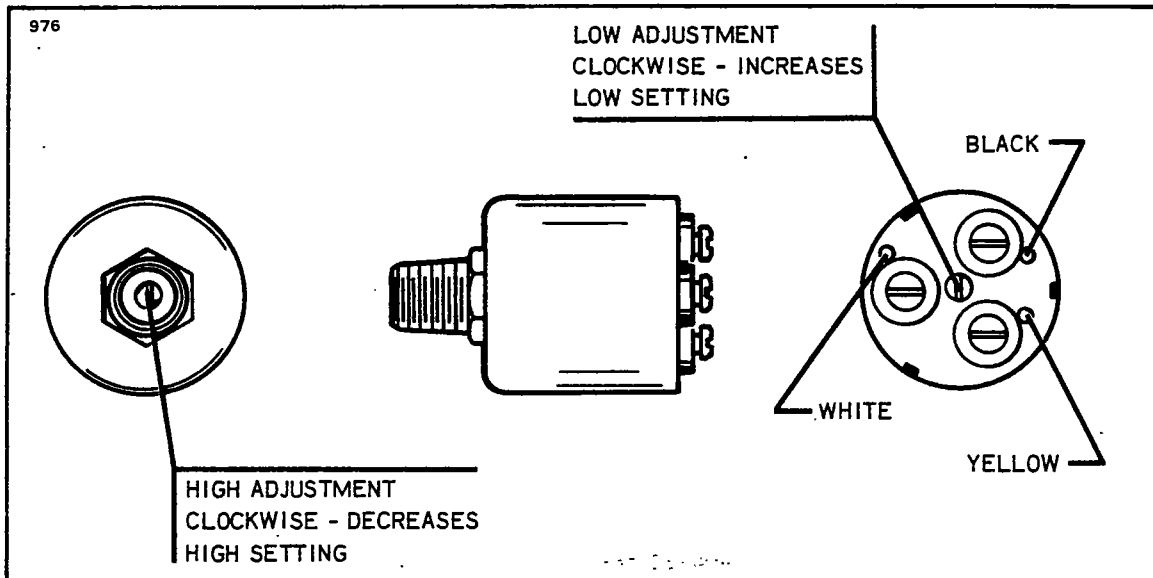

Figure 10-17. Warning Light Pressure Switch
2. Adjust switch to activate the low vacuum light at this setting by locating the vacuum switch in the back of the directional gyro. Directly in the center of the switch is a small adjustment screw which by turning clockwise will increase the low setting and turning counterclockwise will decrease the low setting. (Refer to Figure 10-17.)